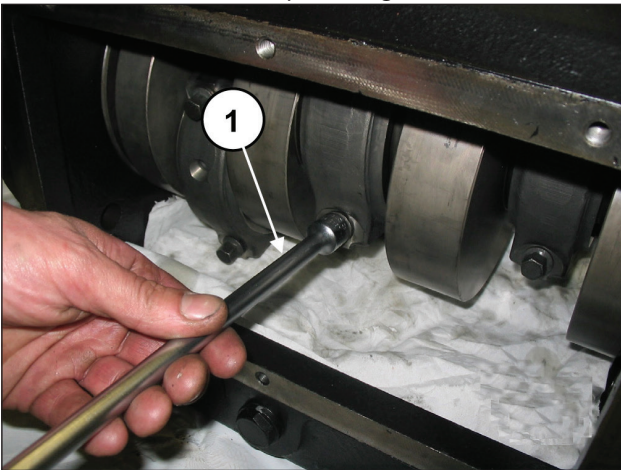

Fig. 24
Unscrew the conrod screws (pos. ①, Fig. 24).